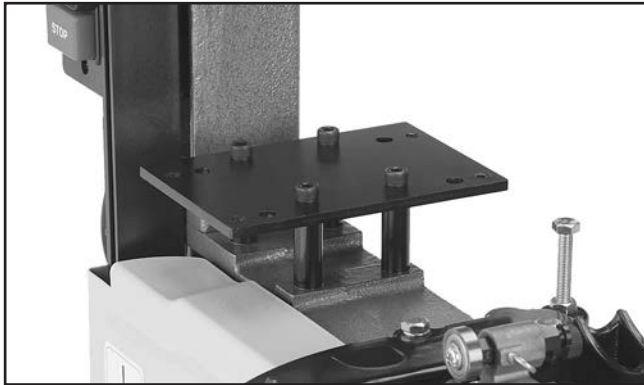

Figure 10. Lever body attached.
- Attach lever board to bandsaw body with (4) spacers and (4) M8-1.25 x 60 cap screws, as shown in **Figure 10**.